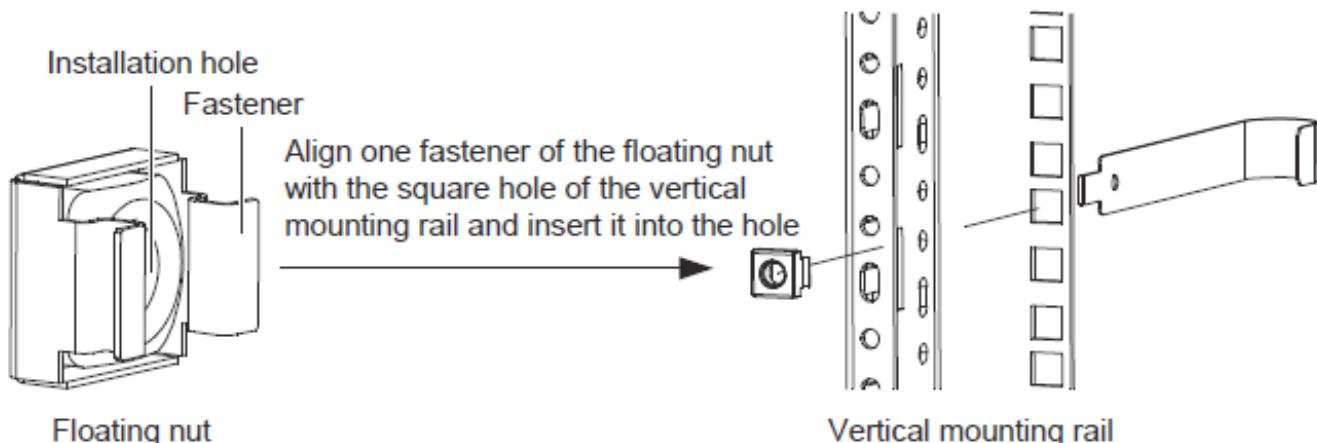

Figure 2-2 Schematic diagram 1 for installing floating nut
1. Insert one fastener of the floating nut into the square hole of the vertical mounting rails, as shown in Figure 2-2.